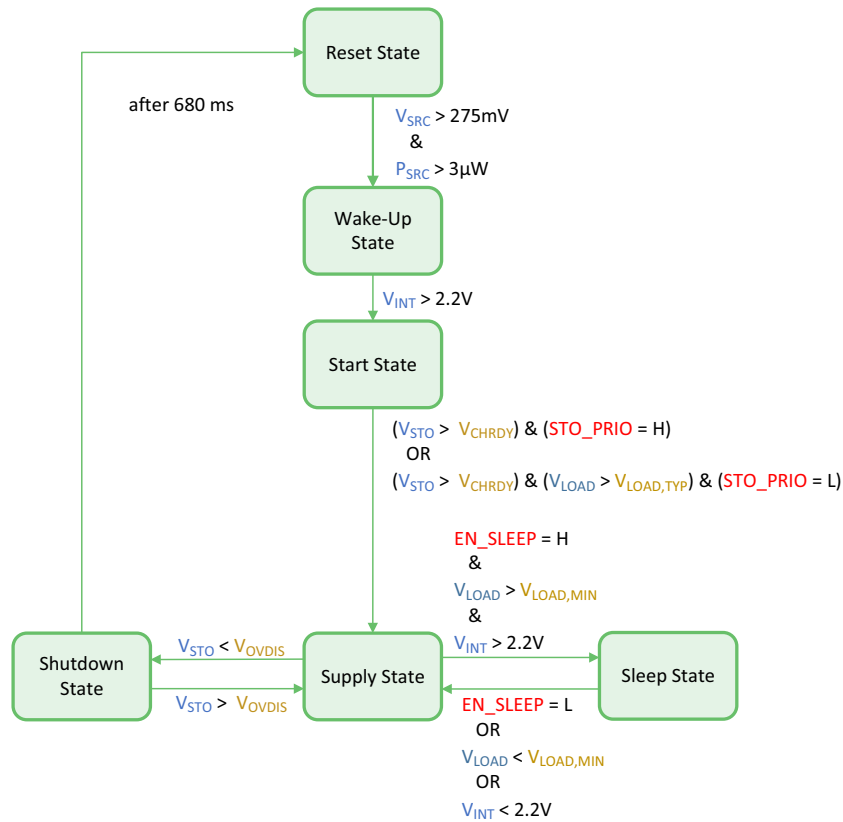

Figure 5: Diagram of the AEM10330 States
- If **EN\_SLEEP** is HIGH and conditions (shown on Figure 5) on  $V_{LOAD}$  and  $V_{VINT}$  are satisfied, the AEM enters **SLEEP STATE** (see section 8.3.4).